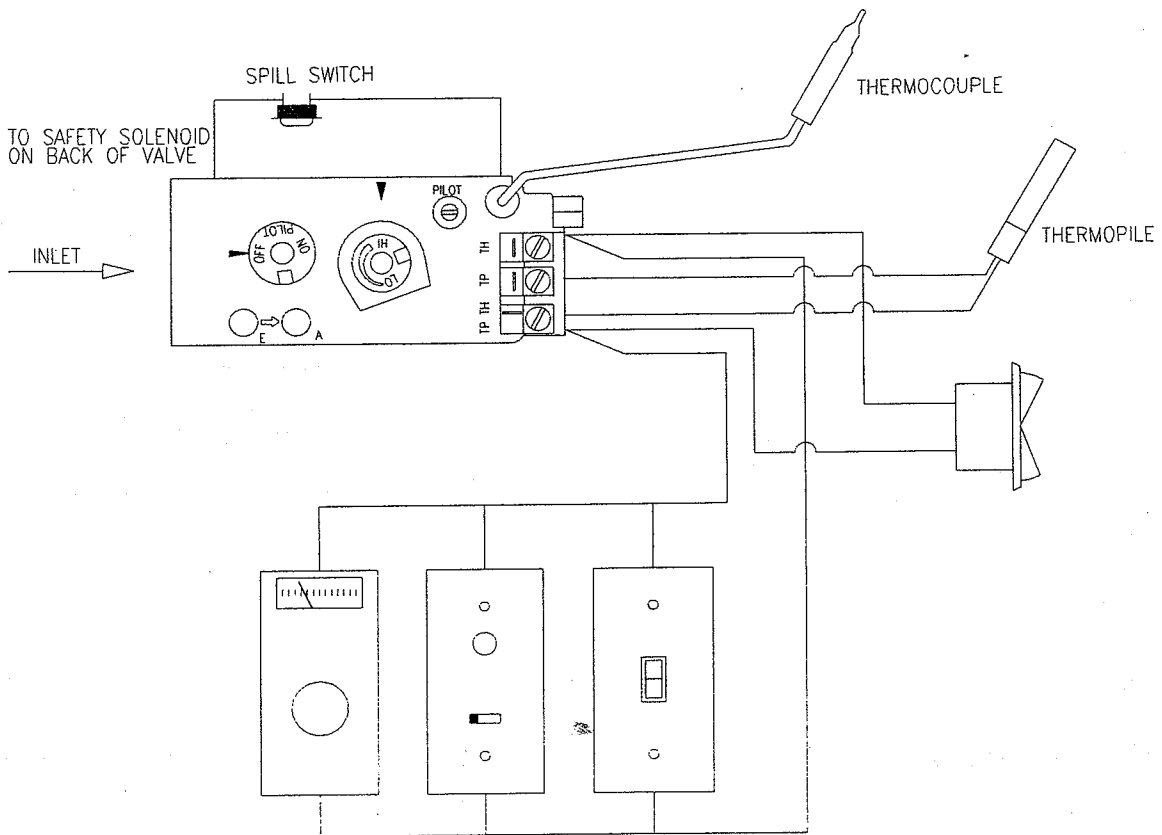

Figure 11
4. This switch may be connected in parallel with a thermostat, wall switch, or remote control (see Figure 11).